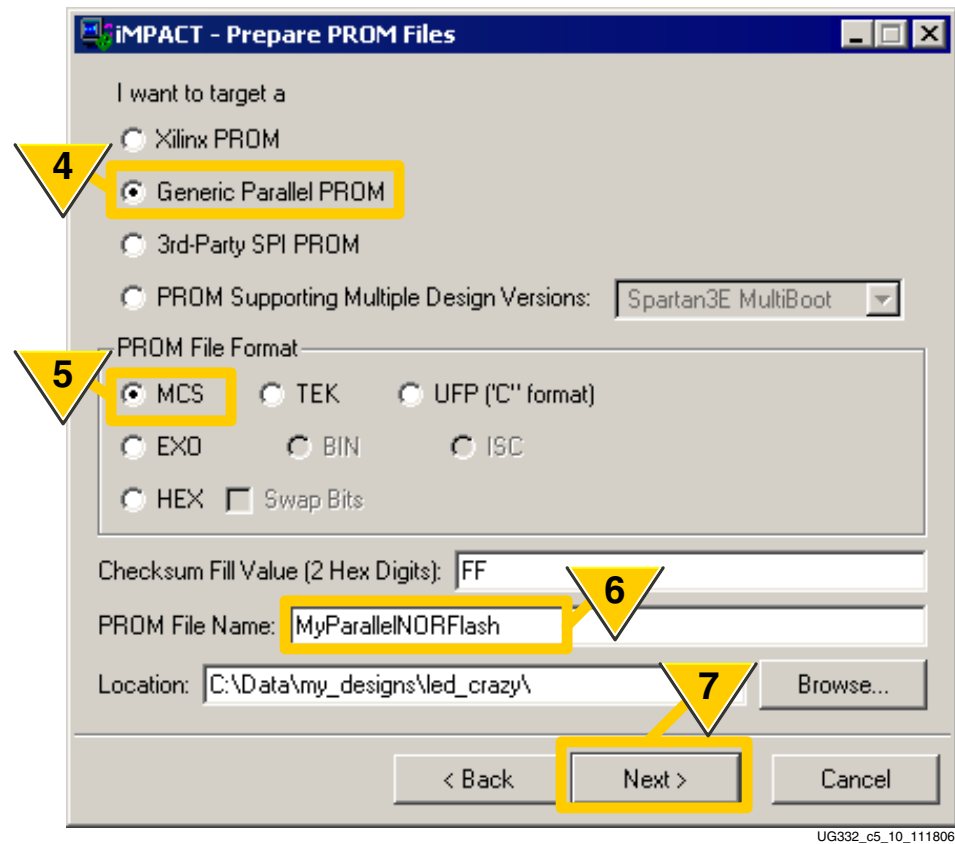

Figure 5-9: Set Options for a Generic Parallel PROM
- As shown in Figure 5-9, target a **Generic Parallel PROM**.